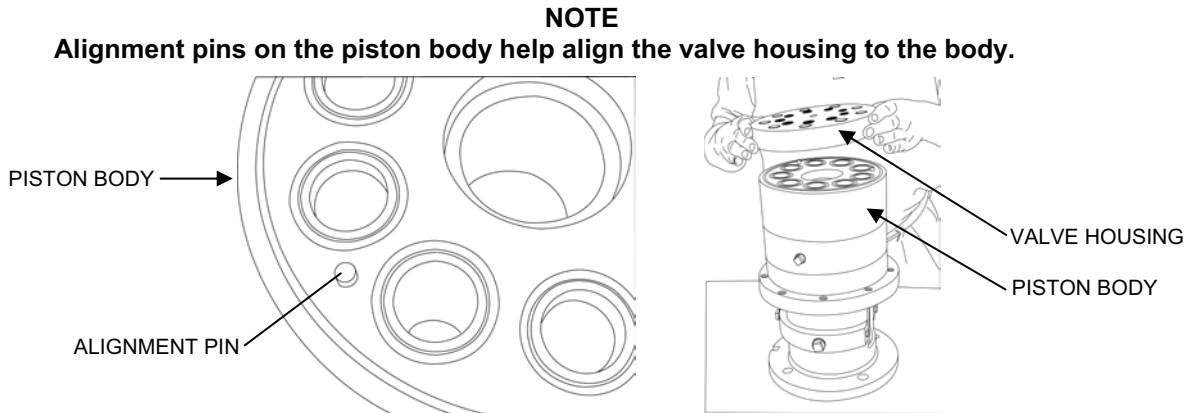

Figure 11. Valve Housing Assembly Installation.
9. Install new pairs of valves into the valve housing from the kit as follows (see Figure 11):
10. Mount the valve housing onto the piston body (see Figure 11).